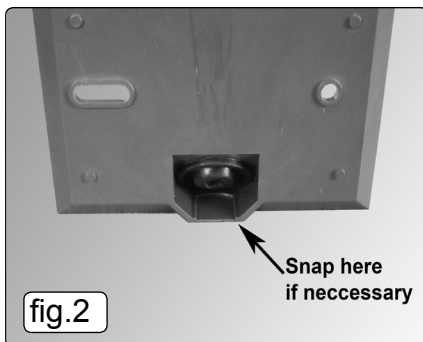

fig.2
- 4.4. If the cable is to be led from the bottom of the mounting plate, carefully snap the plastic web from the cut-out behind the grommet (fig.2).